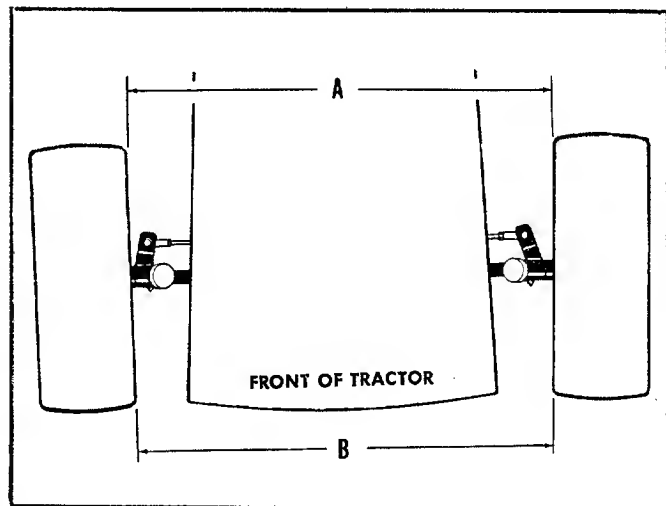

FIGURE 26. TOE-IN DIAGRAM
- Step 3. Adjust the tie rod end in or out to obtain the proper toe-in adjustment as shown in figure 26.